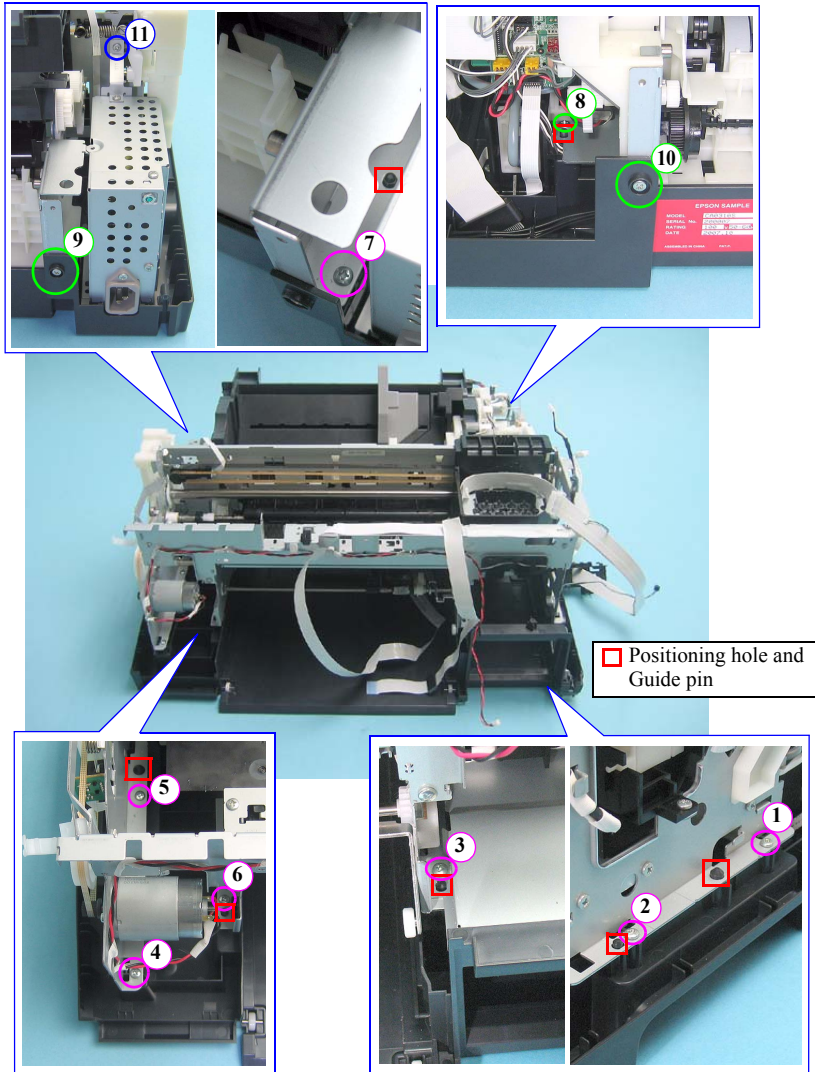

Figure 4-102. Removing the Lower Housing (1)
- Insert the seven guide pins of the Lower Housing into the holes of the Printer Mechanism shown in Figure.4-102.
- Tighten the screws in the order indicated in Figure.4-102.